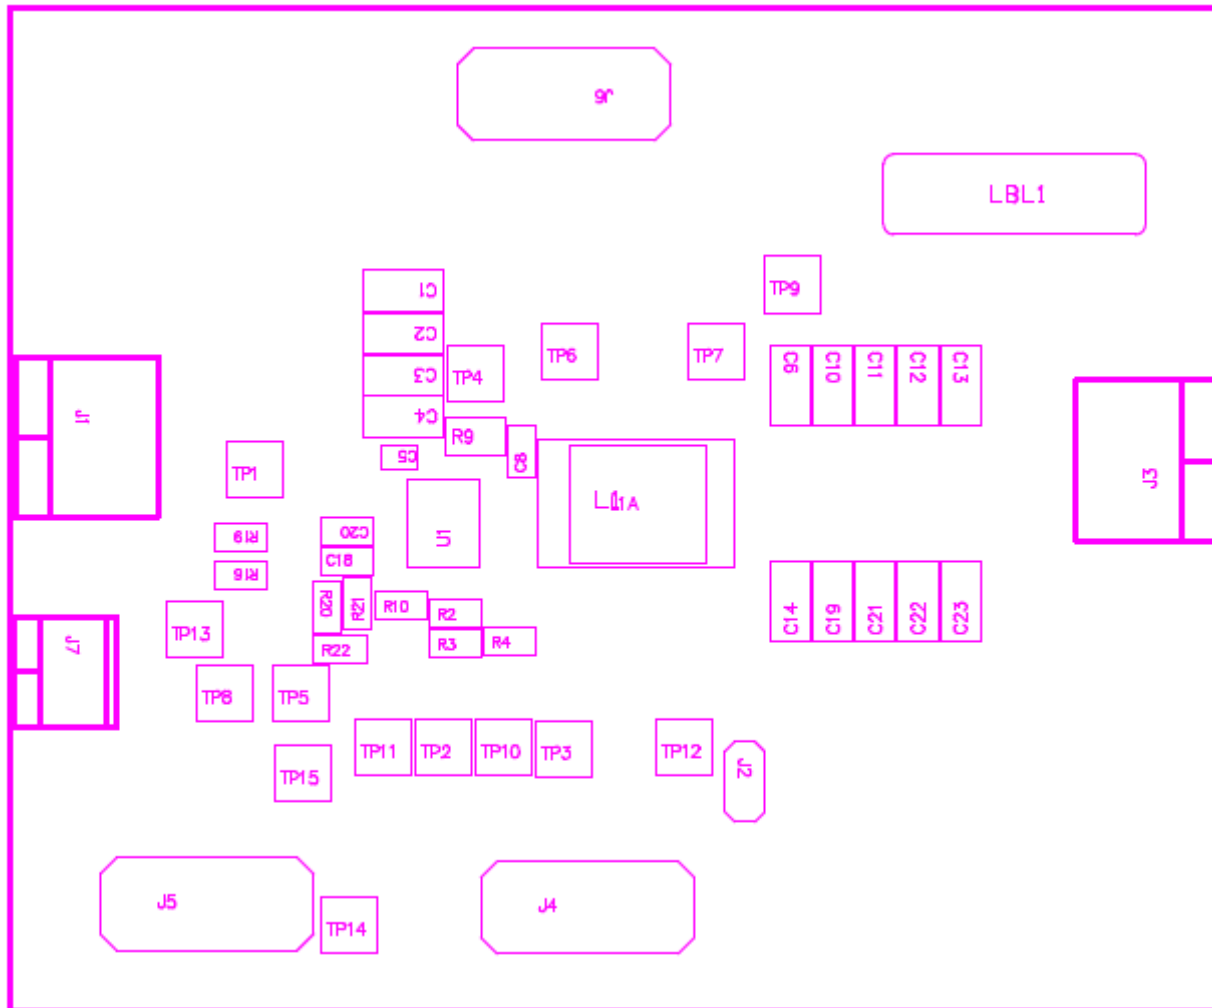

Figure 5-2. TPS549A20EVM-587 Top Layer for Test Setup
- Voltage Source** The input voltage source V_{IN} must be a 0 to 14-V variable-DC source capable of supplying 10 ADC. Connect V_{IN} to J1 as shown in Figure 5-2.
1. Prior to connecting the DC input-source, VIN, TI recommends to limit the source current from VIN to 10 A maximum. Ensure that VIN is initially set to 0 V and connected as shown in Figure 5-2.
1. Set up the EVM as described in Section 5 and Figure 5-2.